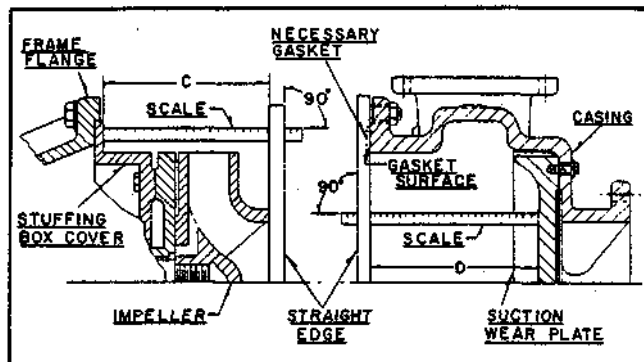

Figure 10. Type "CW and CWR Style" Clearance Adjustment
- a. When installing impeller, it is necessary to shim with gaskets between casing and stuff box cover flange to produce the proper total (front and rear) clearance at the impeller. (See Figure 10.)